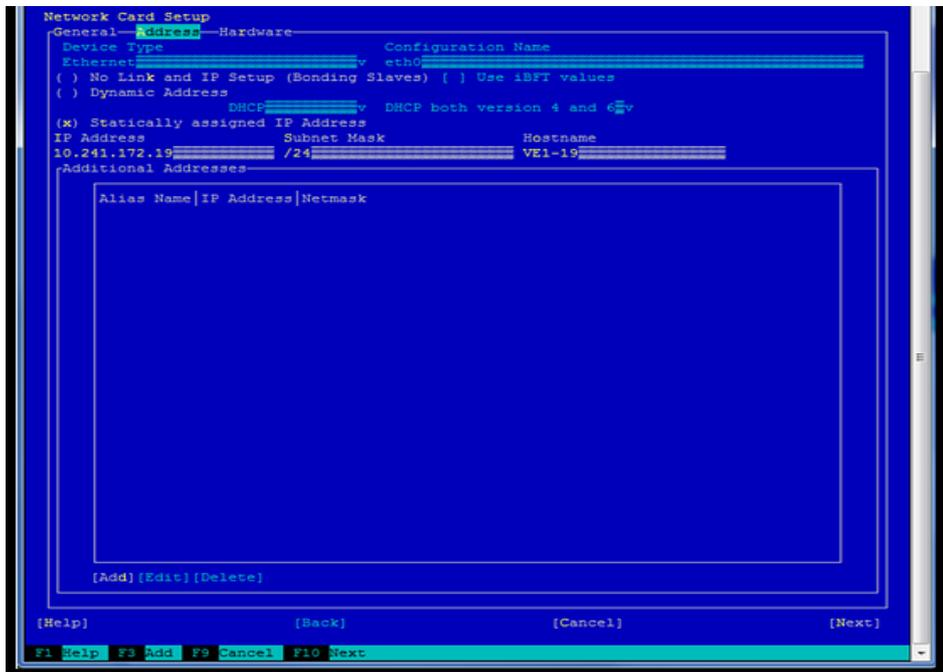

Figure 152 Network Card Setup screen
- a. Edit the IP address or host name (as shown in Figure 152 on page 124) by using the **Tab** key, **Alt-I**, or **F4**. When done, use **Tab**, **Alt-N**, or **F10** for **Next**.